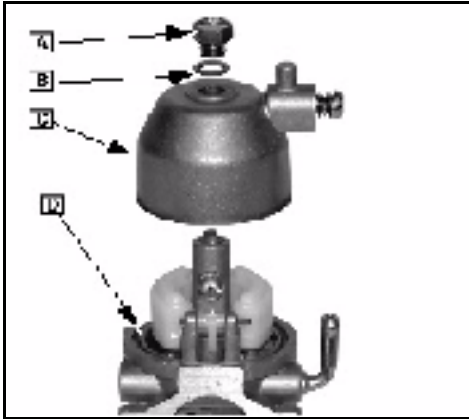

Fig. 109
- Remove bowl mounting screw (A) and float bowl (C). Discard float bowl gasket
(D) and float bowl screw washer ([B] Fig. 109).